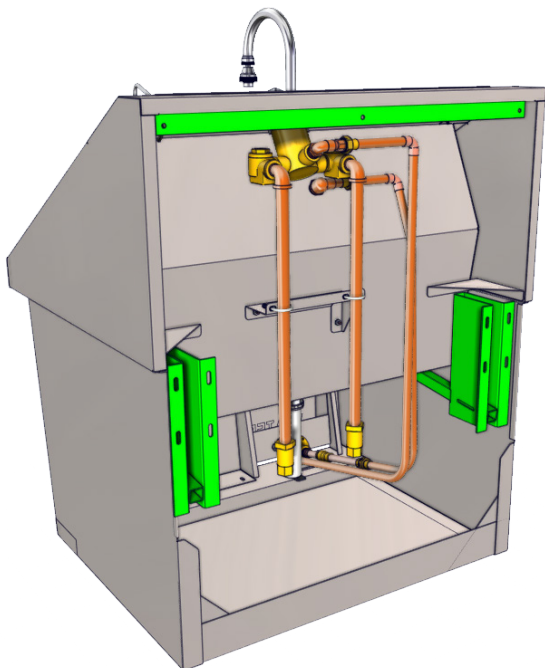
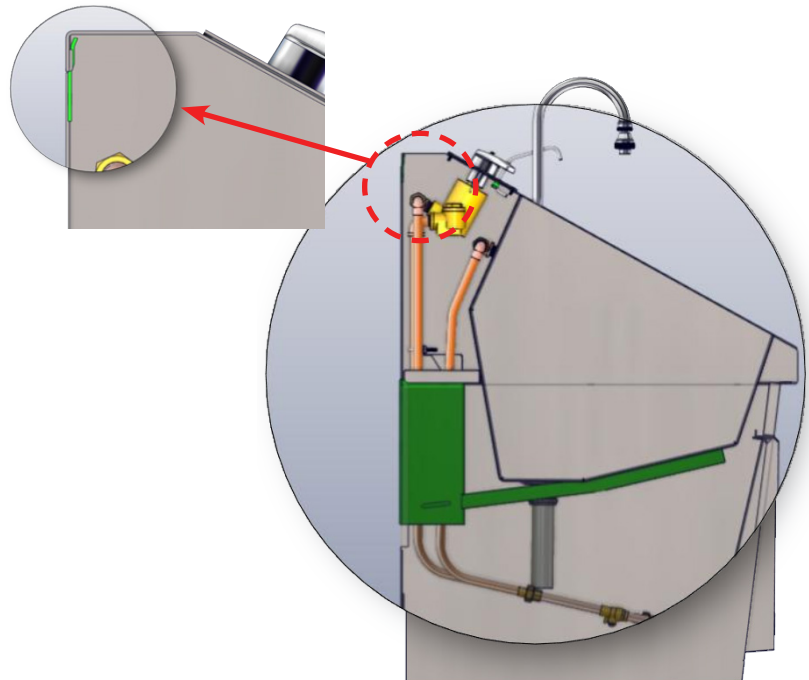

Fig. 6: Z brackets on sink
Fig. 7: Cross section showing Z bracket on sink
- A. With the help of an assistant, slide the sink over the Z Brackets until it locks securely into place (Fig. 6 - Fig. 7, Z brackets shown in green).